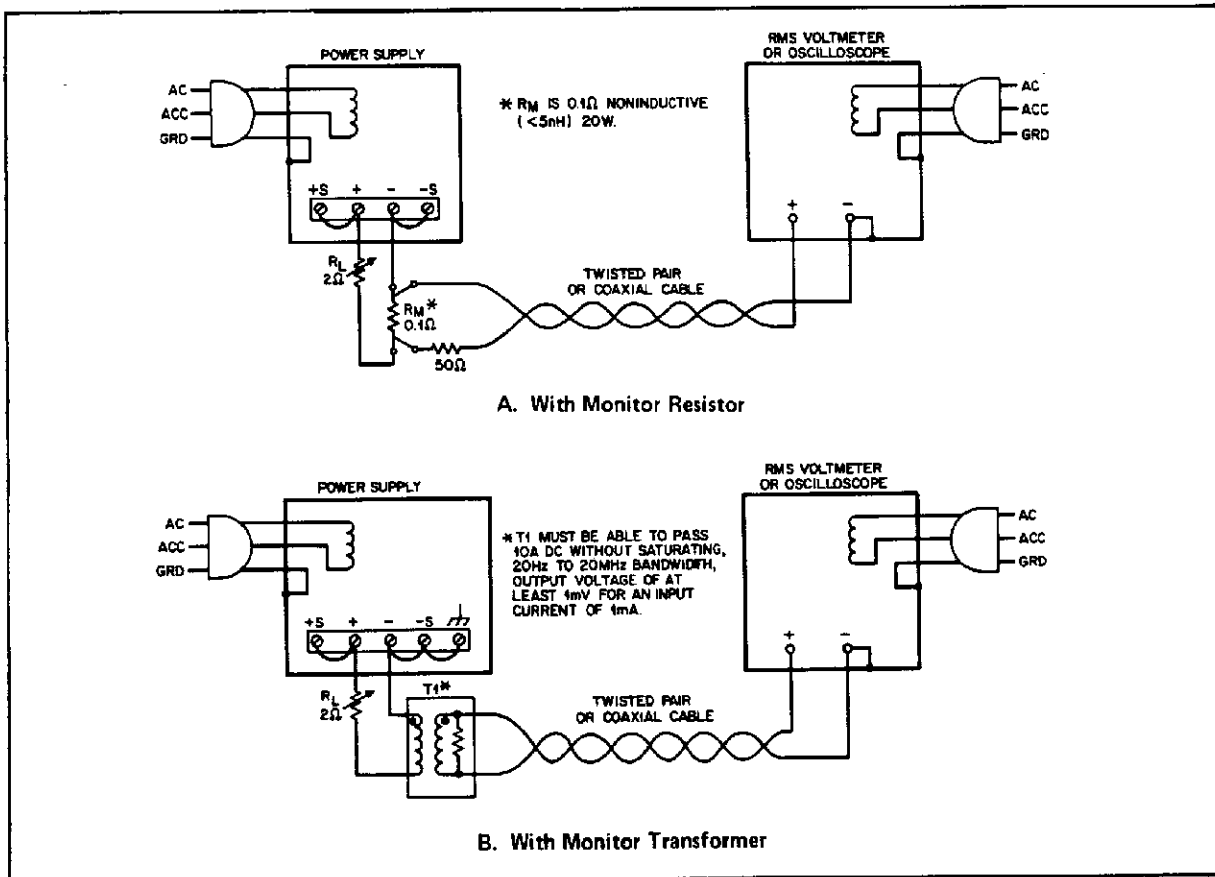

Figure 5-8. Constant-Current Ripple and Noise Measurement Test Setup
noise measurement also apply to the measurement of constant-current ripple and noise. Figure 5-8 shows two test setups that can be used when measuring the ripple and noise of a constant-current supply. Either test setup can be used depending on the availability of an appropriate monitoring resistor.
5-51 The current-monitoring resistor (R_M) in Figure 5-8 can be constructed of parallel-connected resistors. It must have very low inductance to prevent the high frequency components of CC ripple from causing a misleading voltage drop. A current probe/amplifier combination such as Tektronix P6302 probe and AM503 amplifier can be used for the current-monitoring transformer (T1) in Figure 5-8B.
- a. Connect oscilloscope or rms voltmeter as shown in Figure 5-8.